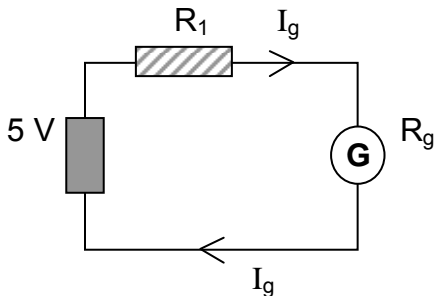

FIGURE 2A
1. Construct the circuit in Figure 2A. Set the decade resistance box  $R_1$  to its highest value before you connect it in the circuit.
5. Use Ohm's Law to calculate  $I_g$  and  $V_g$  in Figure 2A. Record your results on your data sheet.